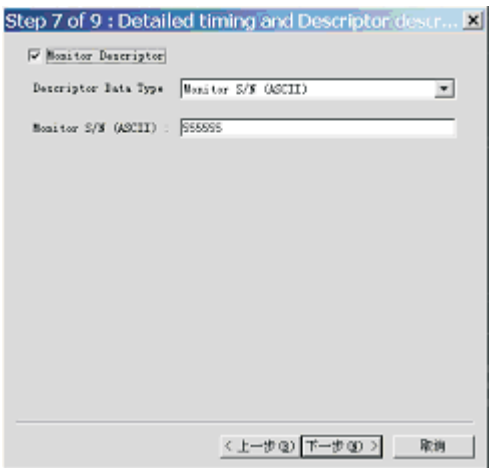

Fig. 20
6. Click Next , bring up Fig. 20.
8. Click Next , bring up Fig. 20.